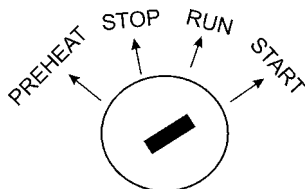

Figure 22. Ignition Switch (START)
7. Turn the key to preheat until the engine warms up (for 3-5 minutes). Then turn the key to the right until the engine starts. Release the key to the 'run' mode (Figure 22).